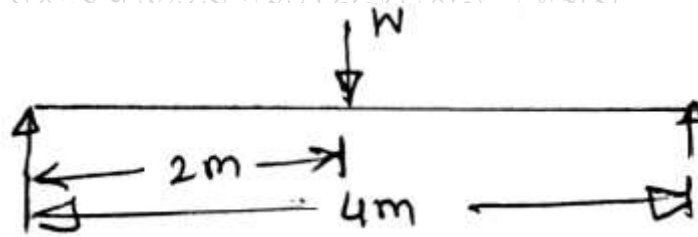

Figure 3
For the given simply supported beam as shown in figure 3 Determine deflection of the free end and the maximum deflection between A and B $E = 210 \text{ GPa}$ and $I = 20 \times 10^6 \text{ mm}^4$ 15
- Q.10 a) The simply supported load as shown in fig 3 If the slope at the ends of beam is 10 not to exceed 1° Find Deflection at the center of the beam 10
- Q.5 Figure 3. shows a pictorial view of an object, draw front view in the direction of arrow-x, top view and an partial auxiliary view showing true shape of the part A, as indicated in the figure. 13